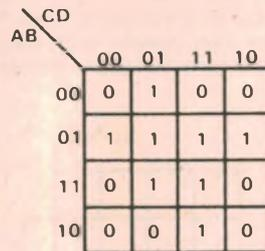
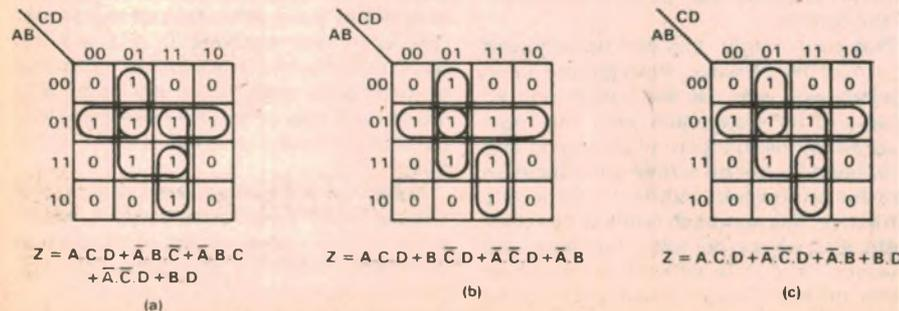
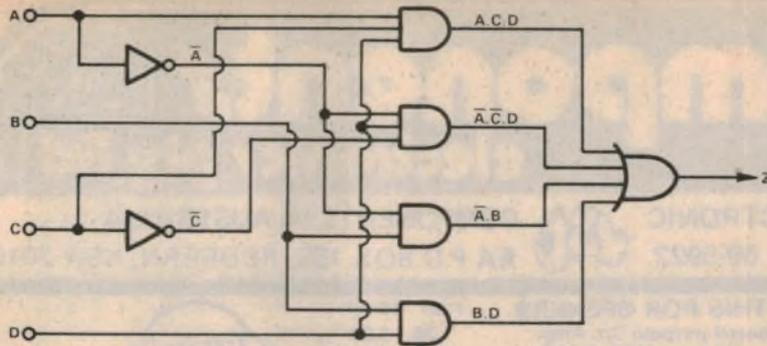

FIG. 3
FIG. 5
FIG. 6  $Z = ACD + \bar{A}\bar{C}D + \bar{A}B + BD$
Our next step is to draw up a Karnaugh map grid for the number of terms involved—here four, and place a 1 in each of the cells which correspond to the truth value combinations shown in (1). To keep the example simple, let us assume that the output of the circuit should be false for all remaining combinations, so that we can place a 0 in all of the other cells. We thus end up with a map of the required function, as shown in Fig. 3.
As it happens, our example of Fig. 3 does not involve this type of loop. However it does have a number of possible "correct answers", which is a situation that often occurs. In other words, a complex function may not have just a single "minimal" form, but may have a number of minimalised forms which from the logical point of view may be equally basic. Which of these may be most desirable from a practical point of view will usually depend upon considerations other than
Three of the possible groupings for the example of Fig. 3 are shown in Fig. 5, together with the corresponding simplified logic expressions. Of the three probably the solution in (c) would be the most attractive from a practical point of view, because it results in an expression containing only four main terms, two of which contain only two of the original input terms.
The direct logic diagram equivalent to the map looping and symbolic expression of Fig. 5(c) is shown in Fig. 6. As you can see, it would call for seven logic elements in all: a single 4-input OR gate, two 3-input and two 2-input AND gates, and two inverters.